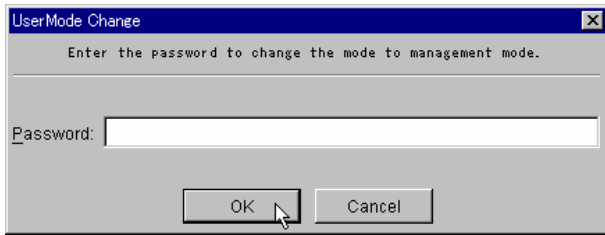

Figure 4.6 Management Mode Password Window
2. Enter your password on the **Management Mode Password** window (see Figure 4.6) and click **OK**.